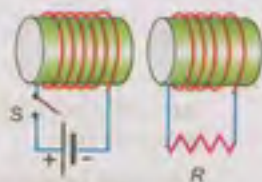

Fig. Q. 15.4
- 15.4 What is the direction of the current through resistor R in Fig.Q.15.4? When switch S is